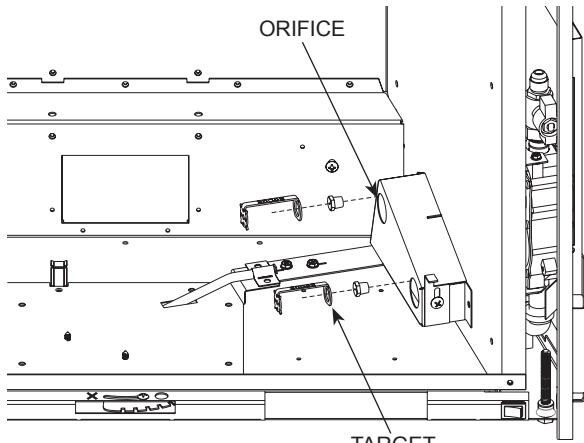

Figure 7
- 7a. Use a 7/16 inch deep socket set to install orifice marked #47 onto rear orifice holder. Use needle-nose pliers to screw rear target onto rear orifice holder (30 only). **See Figure 7.**
- 7b. Use a 7/16 inch deep socket set to install orifice marked 2.40 mm onto rear orifice holder. Use needle-nose pliers to screw rear target onto rear orifice holder (35 only). **See Figure 7.**
- 8a. Use a 7/16 inch deep socket set to install orifice marked #52 onto front orifice holder. Use needle-nose pliers to screw front target onto orifice holder (30 only). **See Figure 7.**
- 8b. Use a 7/16 inch deep socket set to install orifice marked #50 onto front orifice holder. Use needle-nose pliers to screw front target onto orifice holder (35 only). **See Figure 7.**